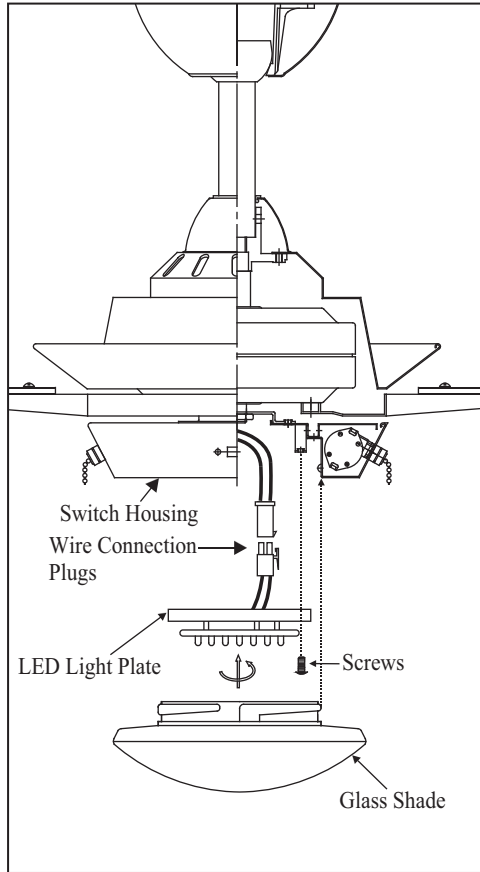

Figure 15
3. Place the key holes on the LED light plate over the 2 screws previously loosened from the switch housing, turn LED light plate until it locks in place at the narrow section of the key holes. Secure by tightening the 2 screws previously loosened and the one previously removed. (Fig. 15)
4. Raise glass shade up against switch housing and secure it to fan by turning glass counterclockwise until snug. DO NOT OVERTIGHTEN. (Fig. 15)